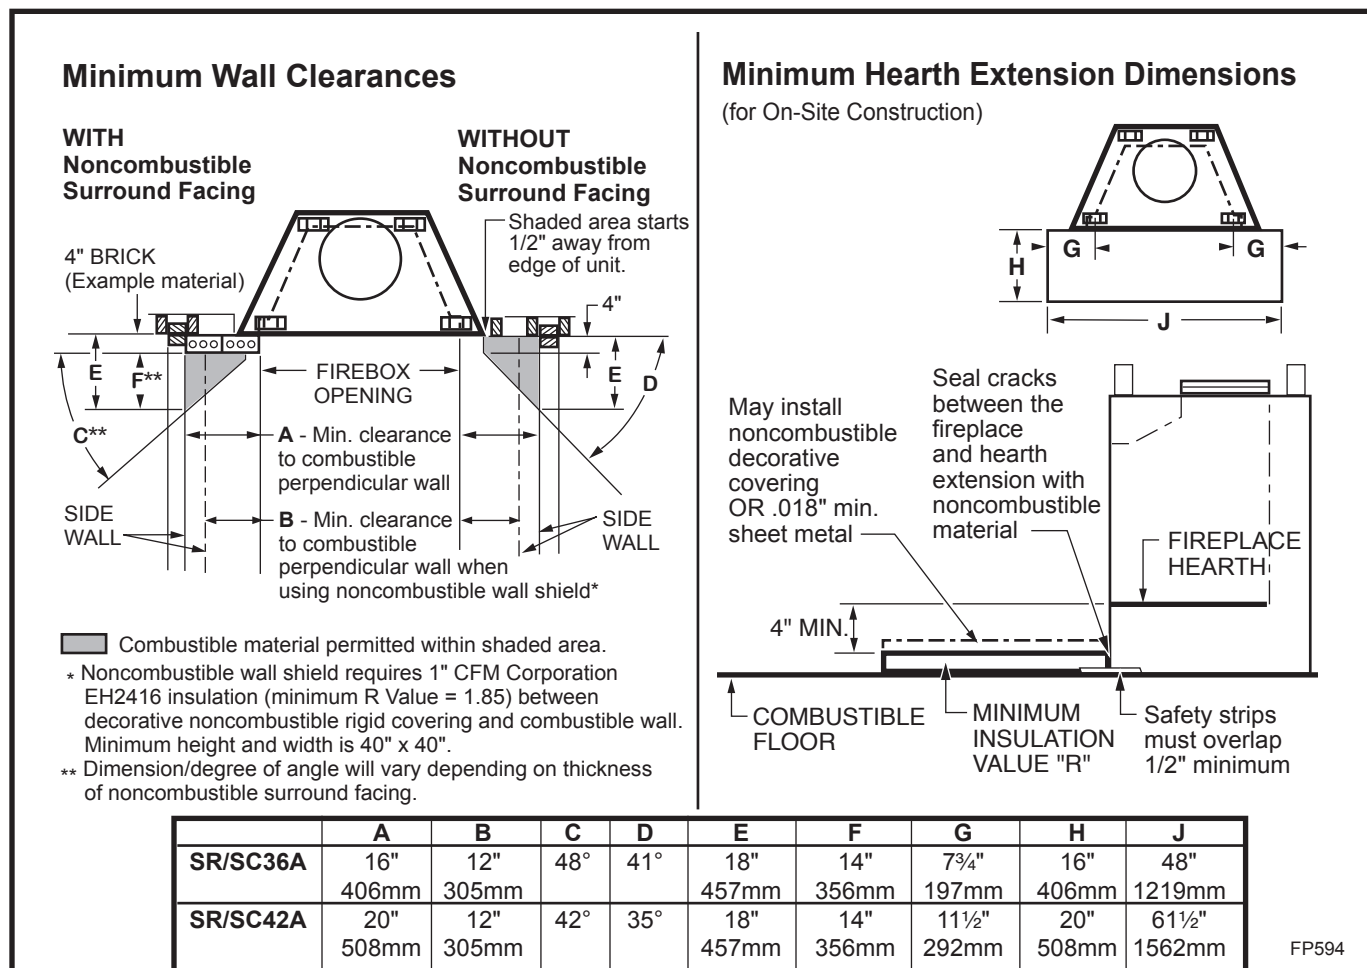

Fig. 23 Combustible side wall protection and hearth extension dimensions.
Often a decorative surround or vertical portion of the mantel is desired. If this is constructed of any combustible material it must be within the safe zone indicated in Figure 23.
Adjacent combustible side walls that are within the minimum dimensions shown in Figure 23 of fireplace opening must be protected with CFM Corporation Wall Shield Model SP40 or a specifically built wall shield described below.
A hearth extension is required to protect a combustible floor in front of the fireplace. Refer to Figure 23 for minimum dimensions and mounting detail.
The hearth extension described in Figure 23 must be a durable noncombustible material with a minimum (total) Rt value of 1.09; refer to Figure 24 for examples. The overall height (above a combustible floor), depth and width must be as indicated, with the extension centered to the fireplace opening.
The top of insulation must be covered with a noncombustible decorative covering or a piece of .018" minimum sheet metal, to protect hearth extension material. (Fig. 23)
Secure the hearth extension to the floor to prevent shifting, using trim molding or other similar means at three (3) outer edges. Seal crack between the fireplace hearth and hearth extension with a noncombustible material. (Figs. 23 and 25)
WARNING: HEARTH EXTENSION MUST BE INSTALLED IN ACCORDANCE WITH FIGURE 23 AND MUST NOT COVER THE BOTTOM FRONT OPENING OF THE CIRCULATING MODEL.